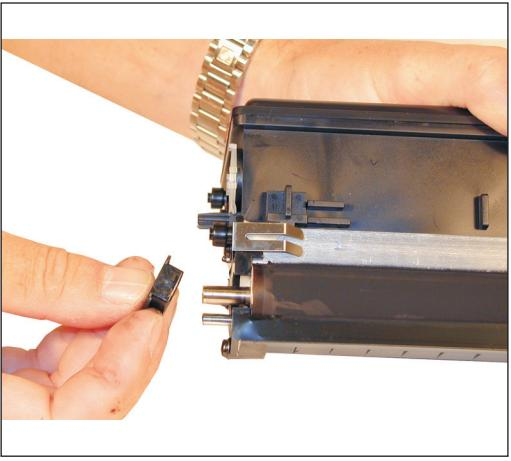

Figure 17
- 14) Replace the developer roller back into the hopper. Make sure that the shims are not damaged, and that the black retaining blade is not damaged. Install the bushing. See Figure 17